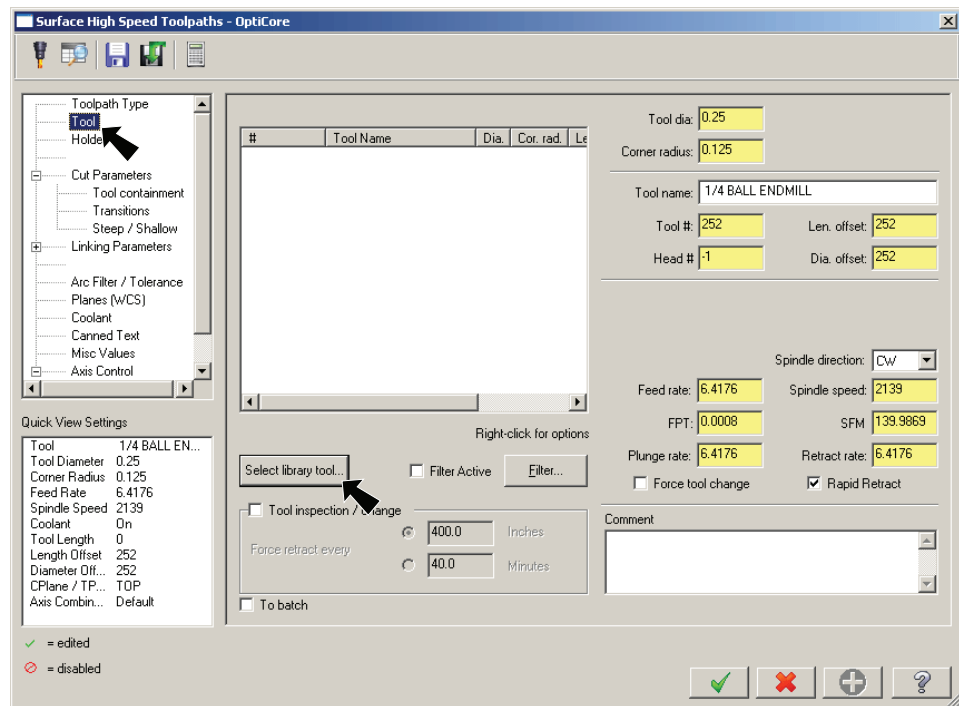

Fig. 10
Step 11. Select **Tool** from the tree control and: click **Select library tool** button, **Fig. 10**.